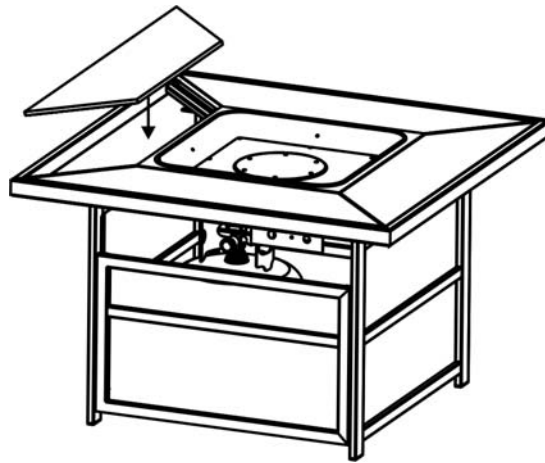

Figure 8
9. Note the clear bumpers spaced evenly throughout the inside of the table top. Carefully place tiles inside table rim, resting on the clear bumpers as shown in Figure 8.